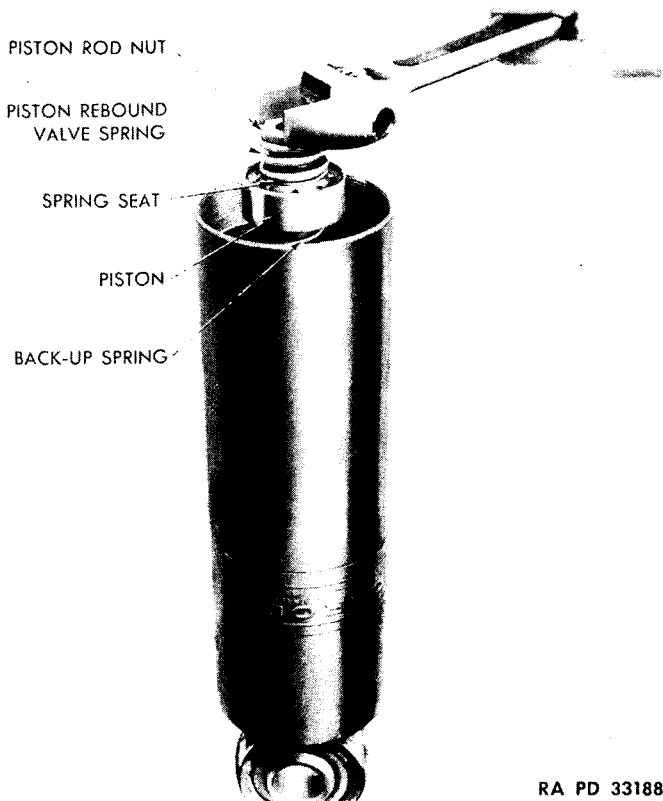

Figure 30. Removing piston rod nut.
(3) *Disassemble piston and valve assembly.* Clamp the forged end of the piston rod and dust shield assembly in a vise with the piston up. Remove the nut that holds the piston on the piston rod (fig. 30). Remove the piston rebound valve spring, spring seat, piston and back-up disk, compression valve back-up disk, compression valve spring seat, piston compression valve spring, and guide.